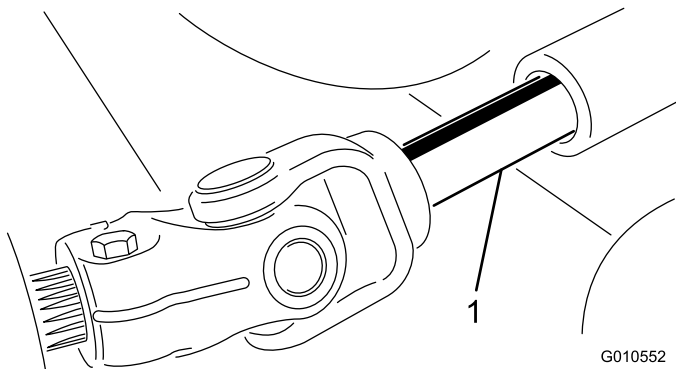

Figure 22
5. Roll the cutting unit away from the traction unit, separating the male and female sections of the PTO shaft (Figure 22).
3. Slide the male PTO shaft into the female PTO shaft (Figure 22).